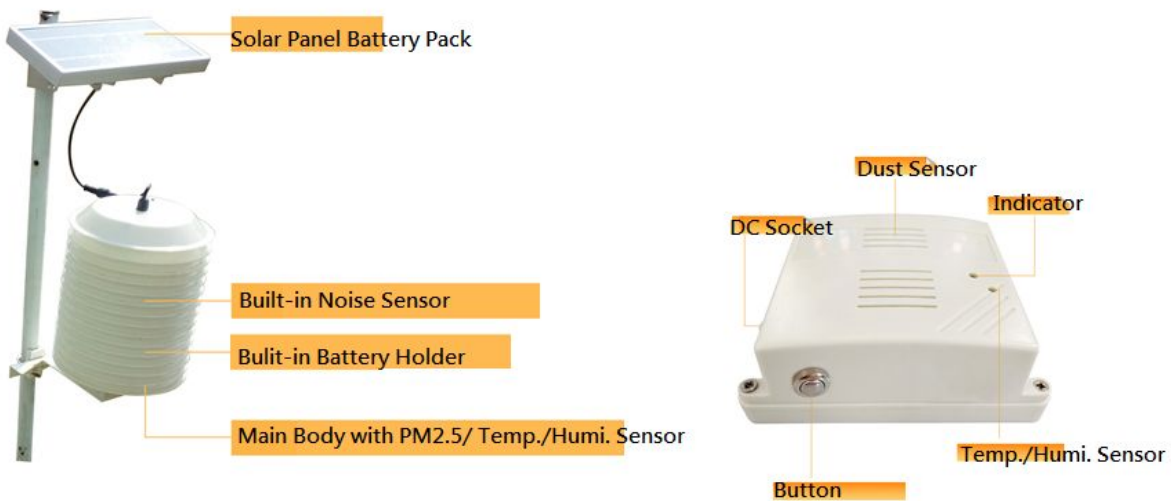

Figure 2
2. Insert the battery according to positive and negative poles. (Fig.2)